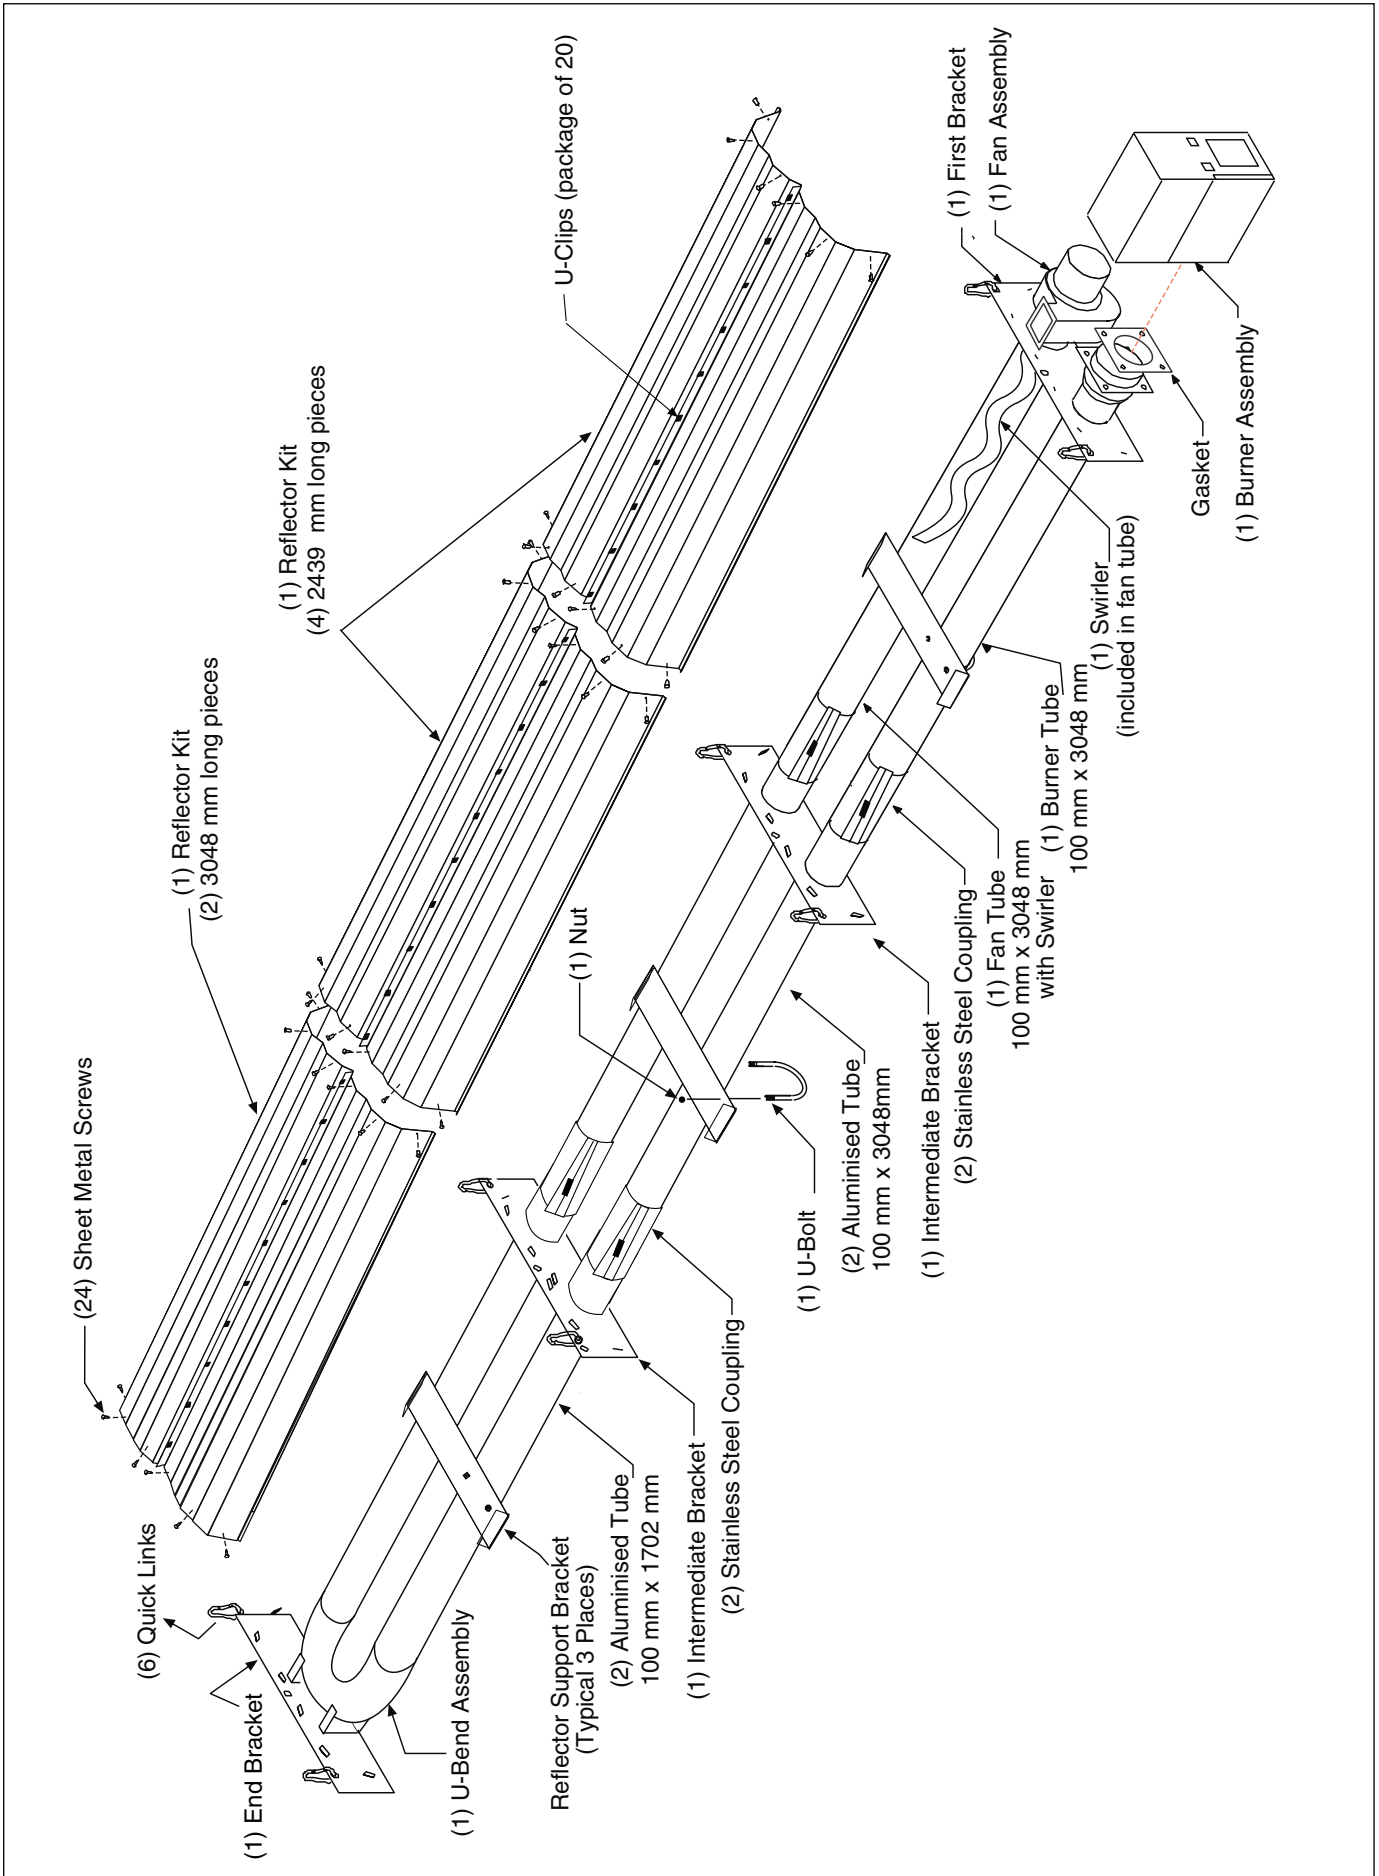

Figure 6. Model BH45UT/BH50UT U-Tube Assembly
4.4.3 Prepare the hanging chains at the position where the heater will be located. Chains used should have 100 kg minimum breaking load and preferably should be galvanised finish. Assemble the two halves of the tube clamp package using the hex carriage bolt, hex nut and flat washer. Attach the clamp to the tube and reflector hanger, and slide the hanger into place on the burner tube (see Figure 6).
- 5.4.5 Assemble the two halves of the tube clamp package using the hex carriage bolt, hex nut and flat washer. Attach the clamp to the tube and reflector hanger, and slide the hanger into place on the burner tube (see Figure 6).